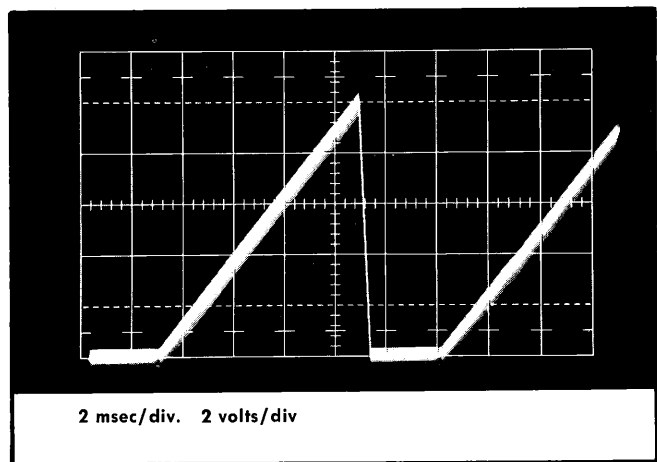

Fig. 5-20. SWEEP OUTPUT waveform—Step 13 b.
- b. The SWEEP OUTPUT signal should be similar to that shown in Fig. 5-20; 1 volt per division of sweep on the Type
With the setup as just used in Step 13b, the time the staircase voltage remains at its most negative level must be at least 2 msec. Fig. 5-20 shows about 2.3 msec for holdoff time.